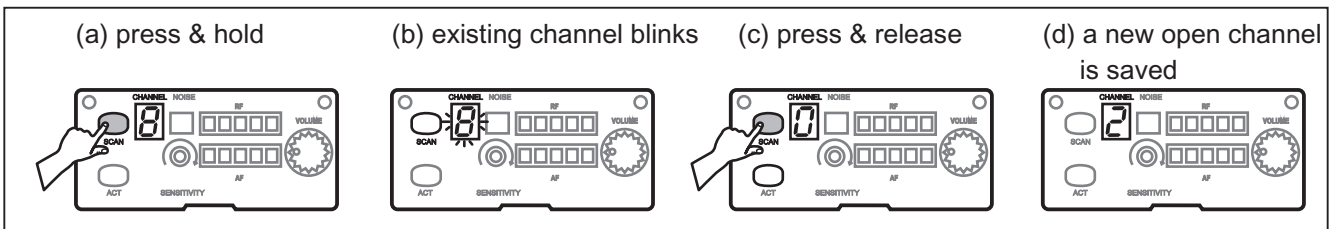

Fig. 5
Press and hold Channel (CH) button **A6** to perform a channel scan. Existing channel blinks to denote it is ready to accept parameter changes. During blinking, press and release Channel button to scan and stop for an open channel. This new channel is now saved. If Channel button is not pressed within six blinks, it stops blinking and reverts back to the existing channel. Fig. 5